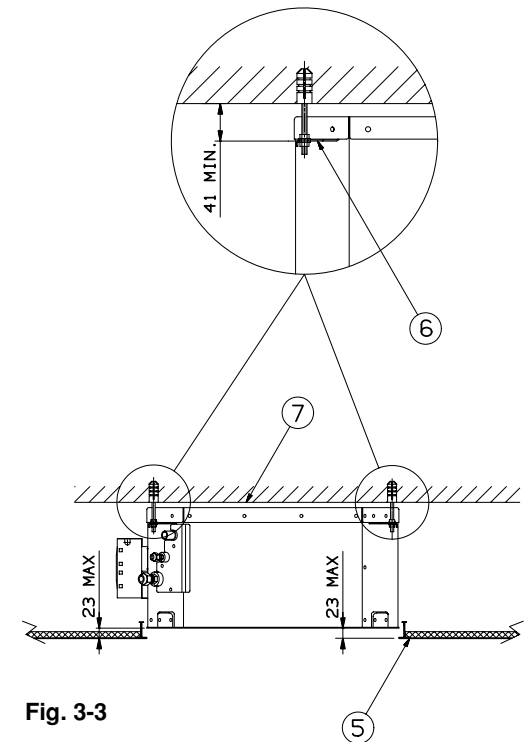

Fig. 3-3
Verify also the distance between the suspension bracket ⑥ and the ceiling ⑦ (min 41 mm); a smaller distance can cause noise in case the unit touches the ceiling.(fig. 3-3)